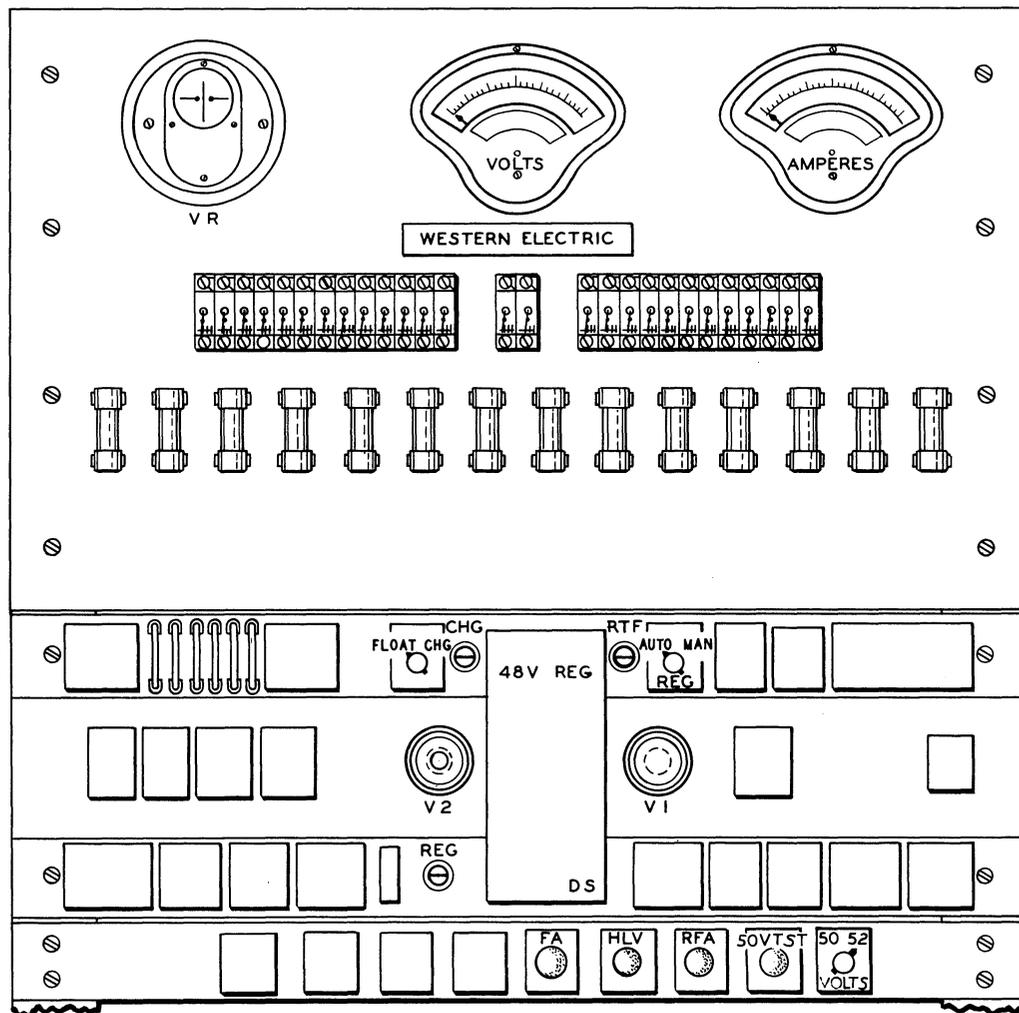
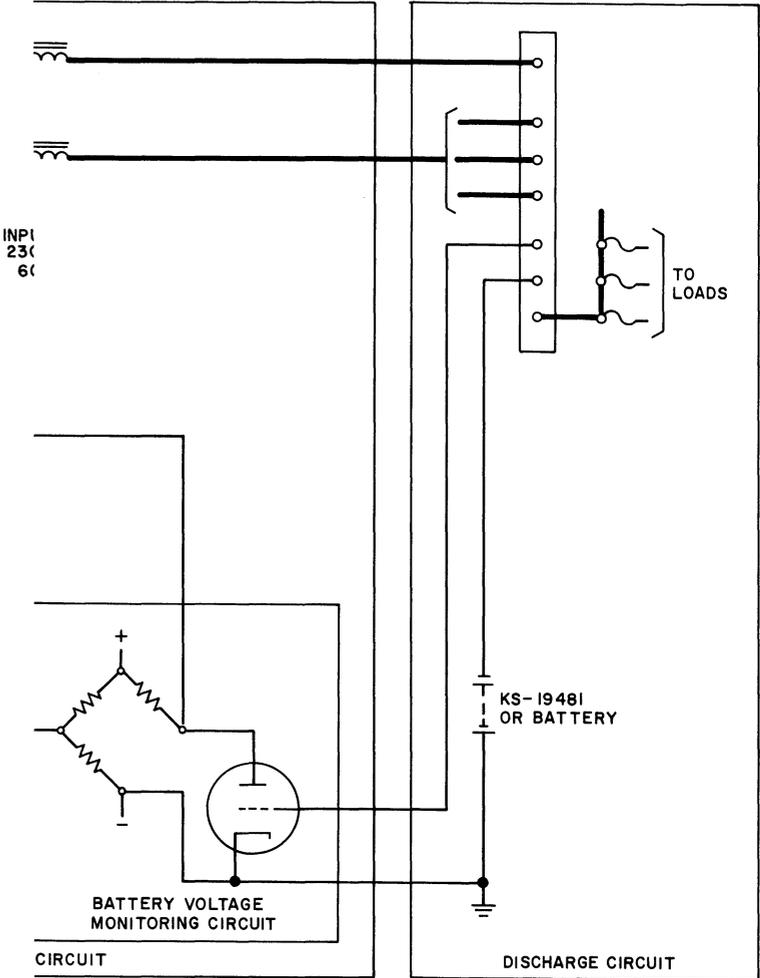

Fig. 2—110A 48-Volt Plant Controls
Fig. 6—Block Schematic of 24-Volt 110B Power Plant
**1.06** Keys are provided as a part of the rectifier for manual control of the output. A voltage control unit, consisting of an amplifier and a bridge, is used for automatic control of the rectifier output to maintain the float voltage of the battery. Only one control unit is required for a 24- or a 48-volt plant (Fig. 2, 3, and 4). From one to twelve rectifiers may be used in the 110A 48-volt plant (Fig. 5), and one to seven rectifiers in the 110A 24-volt plant. From one to four rectifiers are usually used in the 110B 24-volt plant (Fig. 6). On constant load plants, rectifiers in excess of those required to supply the load are available to charge the battery. On variable load plant, additional rectifiers will not be normally required, as charging of the battery can be done during light-load periods.